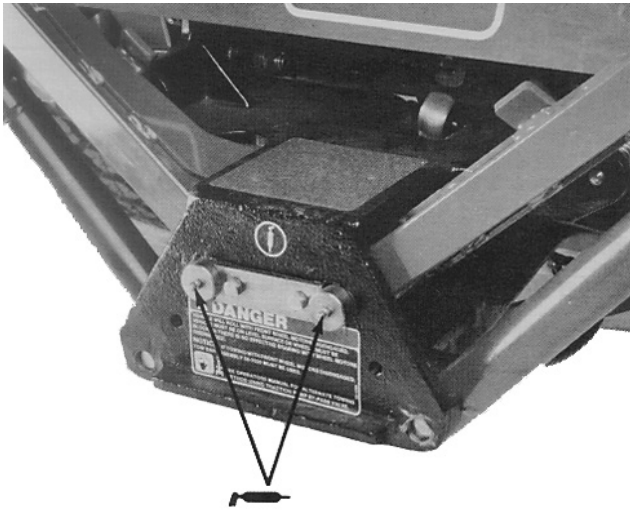
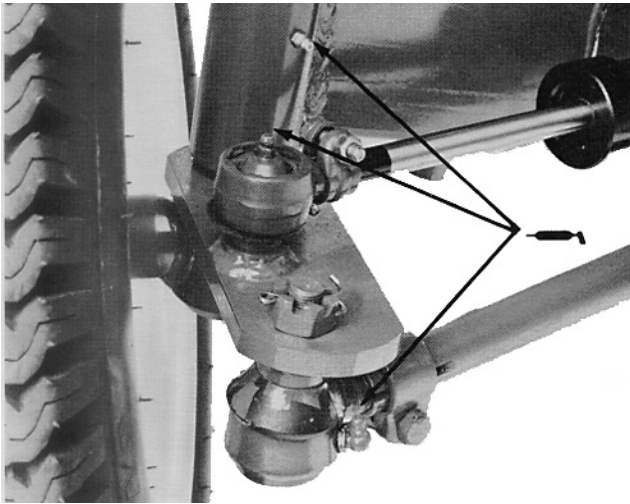
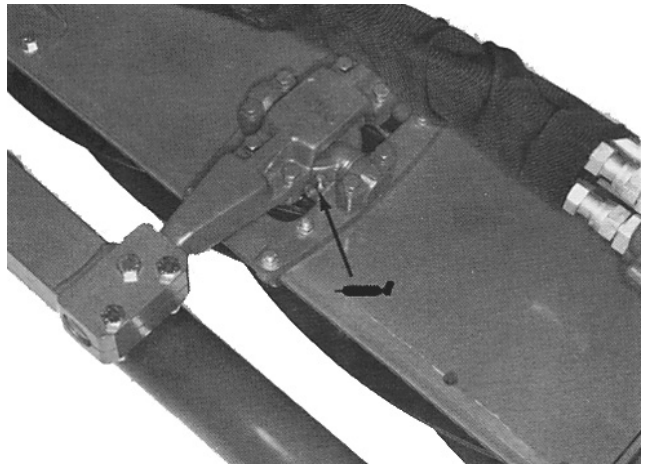

Figure 24
Figure 25
Figure 26
The machine has grease fittings that must be lubricated after every 50 hours of operation with No. 2 General Purpose Lithium Base Grease. Lubricate fitting immediately after every washing regardless of interval listed. The lubrication points are: lift arms (5) (Fig. 24), rear axle (6) (Fig. 25), floating or fixed head kit pivots (Fig. 26) and cutting unit reel and roller bearings (Fig. 27). Also, grease fitting on reel control valve (not shown), located under right hand console.
**Note:** Remove the plastic caps over the fittings on the floating or fixed head kit pivots and replace after greasing (Fig. 26).